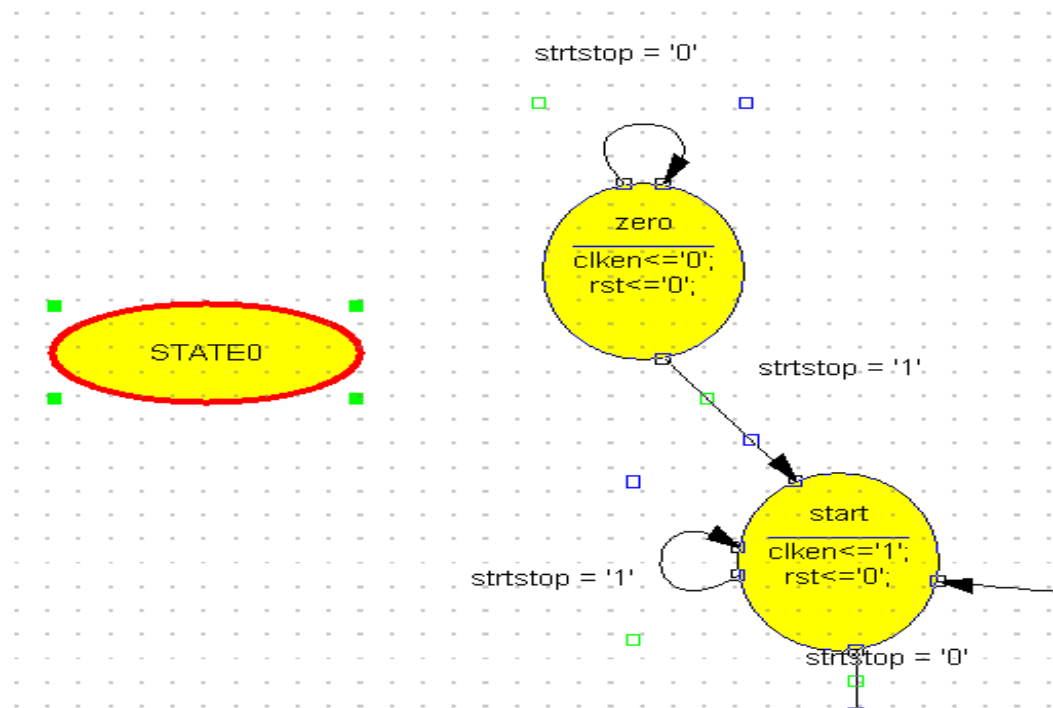

Figure 3-22: Adding the CLEAR State
2. Place the new state on the left-hand side of the diagram, as shown in Figure 3-22.